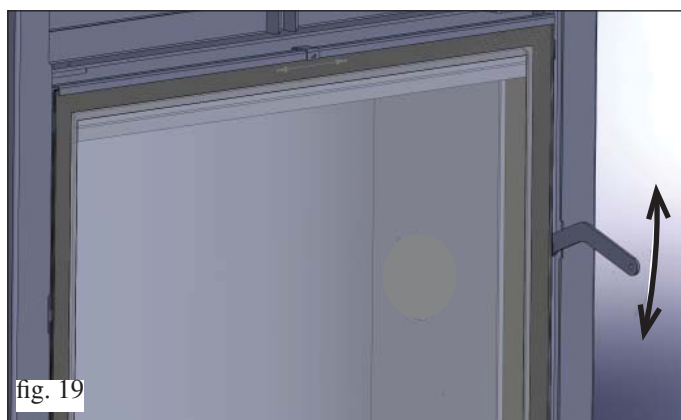

fig. 19
- Insert the "cold handle" door handle on the latch between the structure and the door and turn to open (fig. 19).